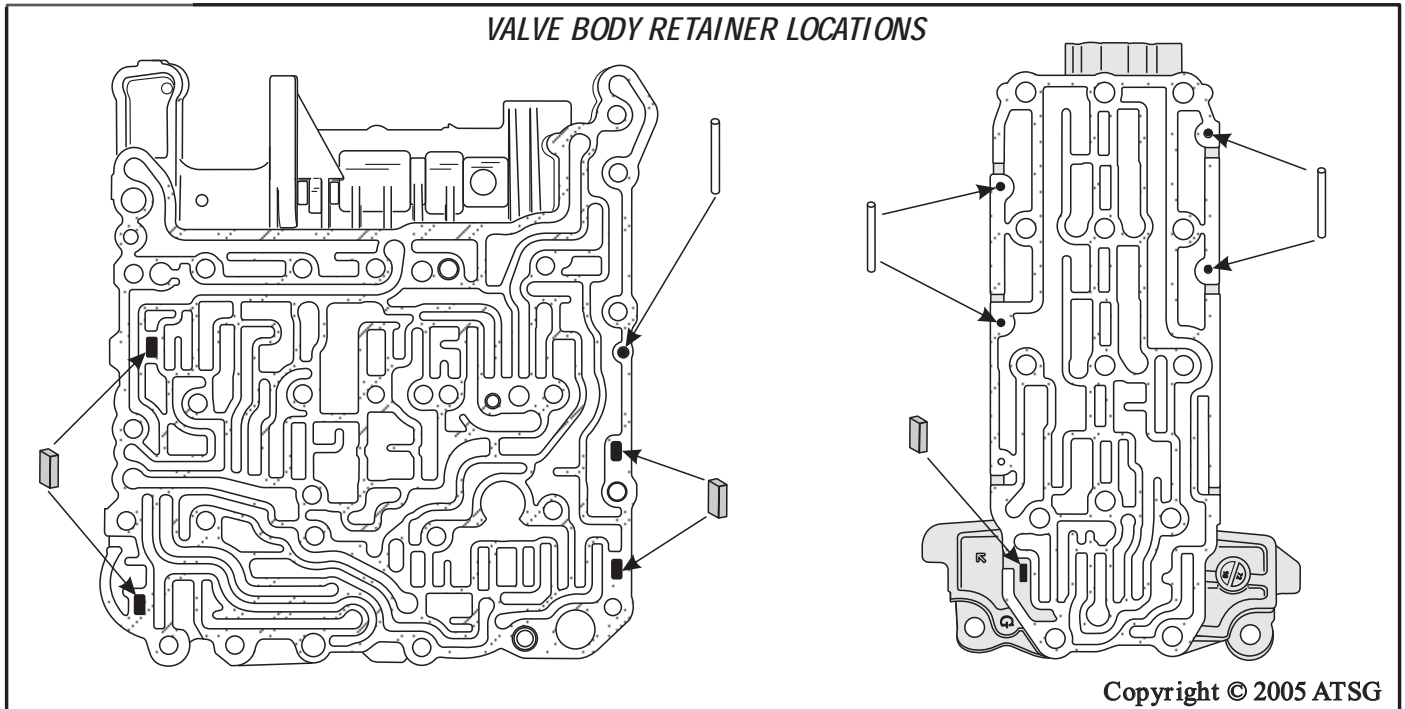

Figure 145
19. The main valve body and solenoid valve body retainer locations have been provided for you in Figure 145.